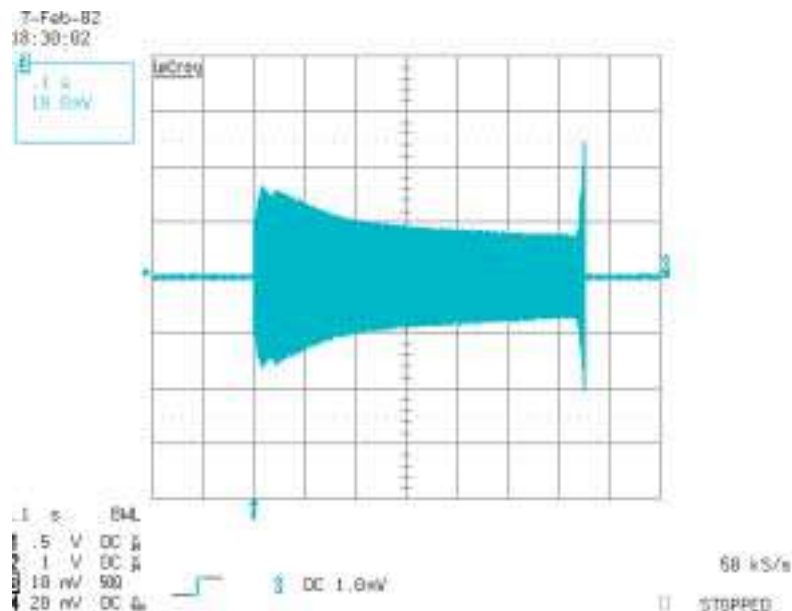
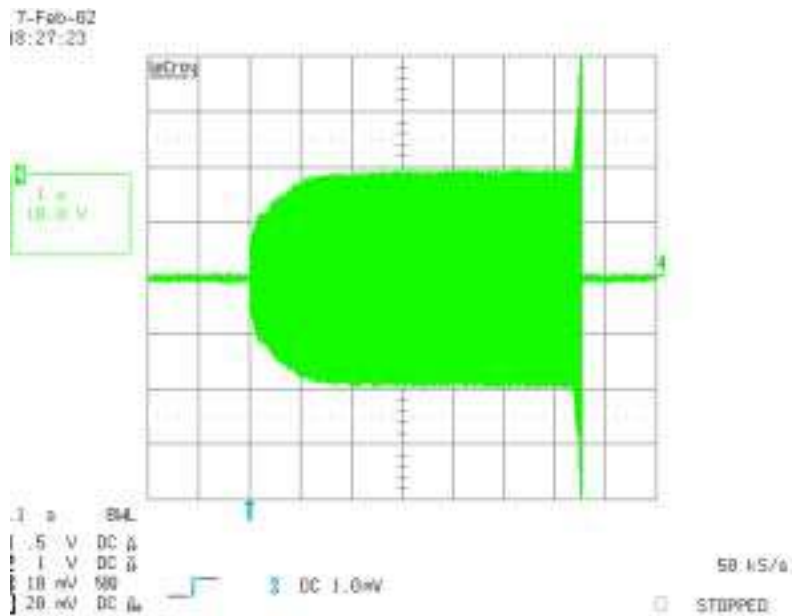

Figure 1: Lamp filament current during Preheat and Ignition Ramp (500mA / div) (crossed lamps)
Figure 2: Lamp filament voltage during preheat and Ignition Ramp (crossed lamps)
The ballast control section oscillator of the IR2166 is similar to oscillators found in many popular PWM voltage regulator ICs and consists of a timing capacitor and resistor connected to ground. Resistors RT and RPH program a current which determines the ramp up time of capacitor CT. The downward ramping time of CT is the dead time between the switching off of the LO (HO) and the switching on of the HO (LO) pins on the IR2166. The Preheat mode frequency of oscillation is determined from the parallel between RT and RPH. It is selected such that the voltage appearing across the lamp is below the minimum lamp ignition voltage while supplying enough current to preheat the lamp filaments to the correct emission temperature within the Preheat mode period. The preheating of the lamp filaments is performed with a constant voltage during the Preheat mode. The waveform in Figure 1 shows the lamp filament current while Figure 2 shows lamp filament voltage during the normal Startup, Preheat and Ignition Ramp modes of the ballast.